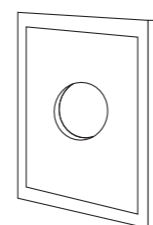

Figure 5
- Drill out a Ø105mm mounting hole in the glass.(as shown in Figure 5)